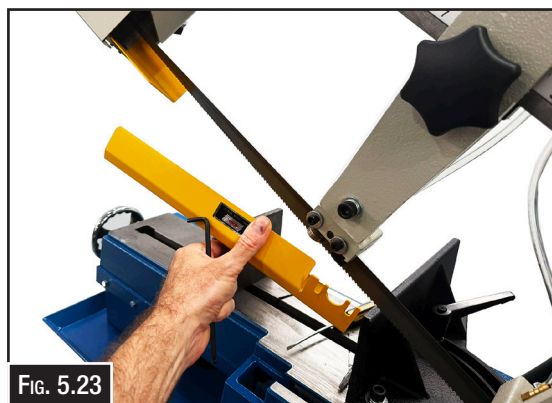

FIG. 5.23
4. Undo the 3 screws and remove the left blade guard. (Fig. 5.23)